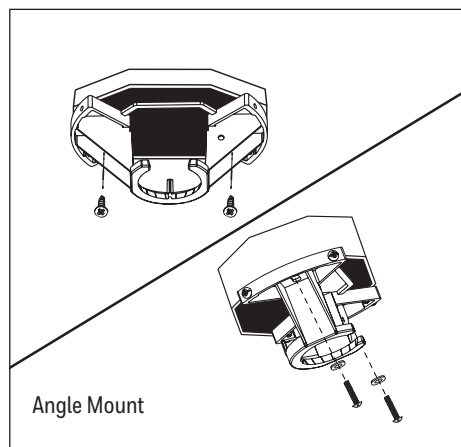

Figure 2.2
2. Install the mounting bracket to the outlet box (sold separately) using the screws and washers provided with the outlet box (Figure 2.2).